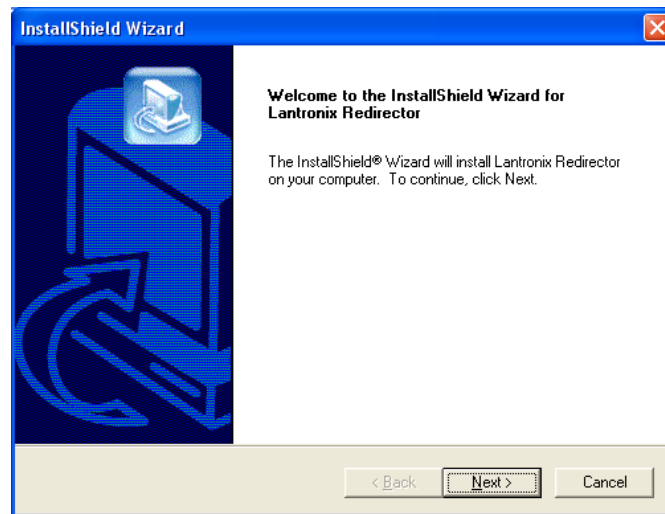

Figure 6.2 – Welcome Screen
- b. Click the **Next** button. The installation files are unpacked and the **Welcome** screen in Figure 6.2 appears.